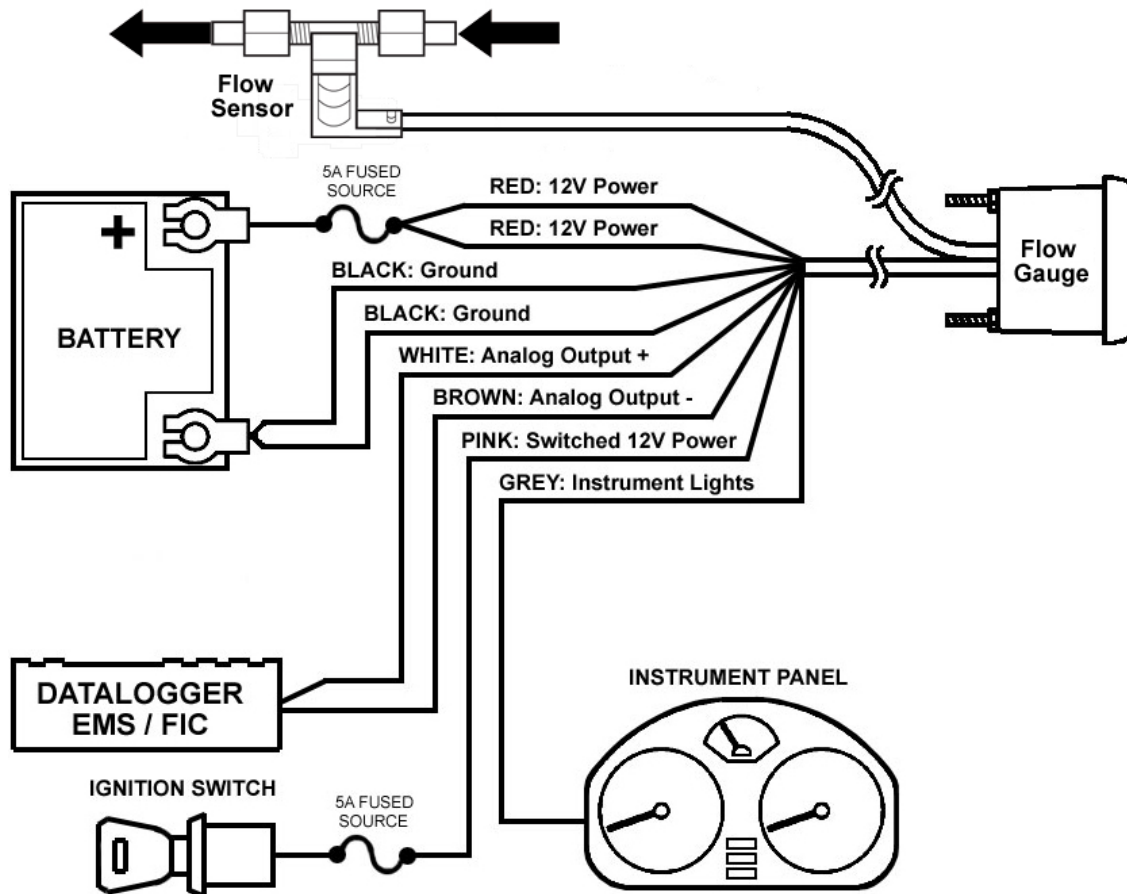

Figure 1. Wiring Schematic
3. Plug the 8-wire power harness into the mating connector on the back of the gauge and connect the wires as shown in Figure 1. The power harness connector can only be inserted one way.